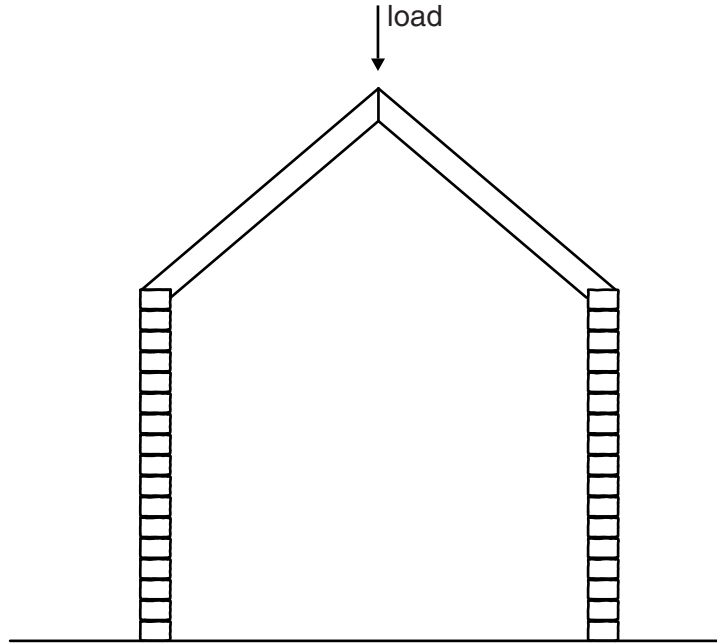

Fig. 6
- 9 (a) Fig. 6 shows a section through a stone building and the position of the roof timbers.
- (i) Draw on Fig. 6 to show **one** method of preventing the roof timbers from moving outwards when a load is applied to the roof. [2]
- (ii) Draw on Fig. 6 to show **one** method of preventing the walls from bowing out if no alteration is made to the roof timbers. [2]